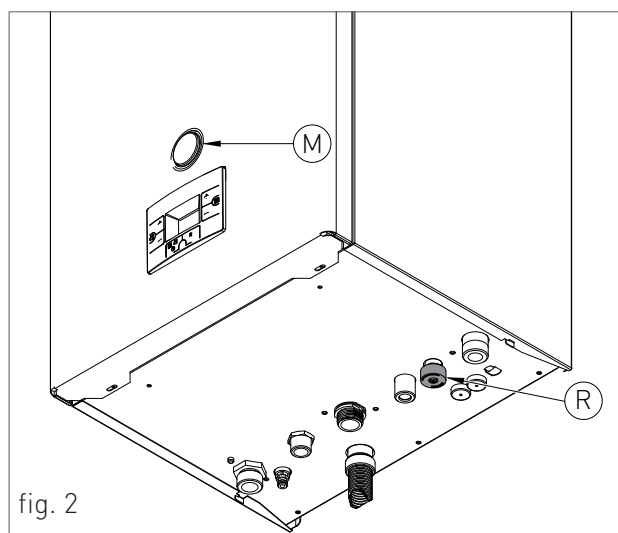
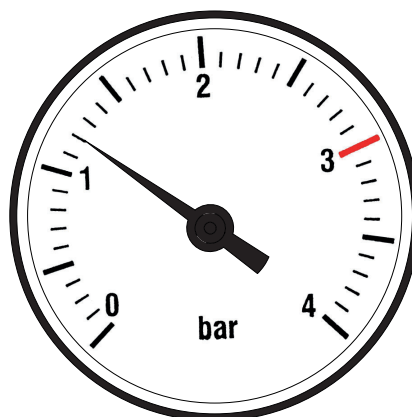

fig. 2
fig. 4
3. open the feeding tap "R" (fig. 2);
5. use pressure gauge "M" (fig. 2) to make sure that the system pressure reaches 1.2 bar (fig. 4);
6. after performing this operation, make sure that the loading tap "R" (fig. 2) is properly closed.
8. if after performing these operations you observe a decrease of the water pressure inside the system, open once again the loading tap "R" until the pressure gauge indicates the value of 1.2 bar (fig. 4).